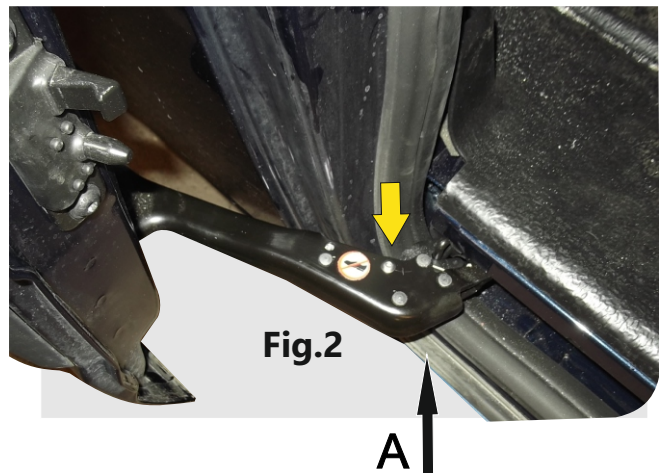

**Fig.1**
- Align the actuator in the correct direction as shown in the **Fig.1** and secure the actuator using supplied screws M6X16 and Nut M6.